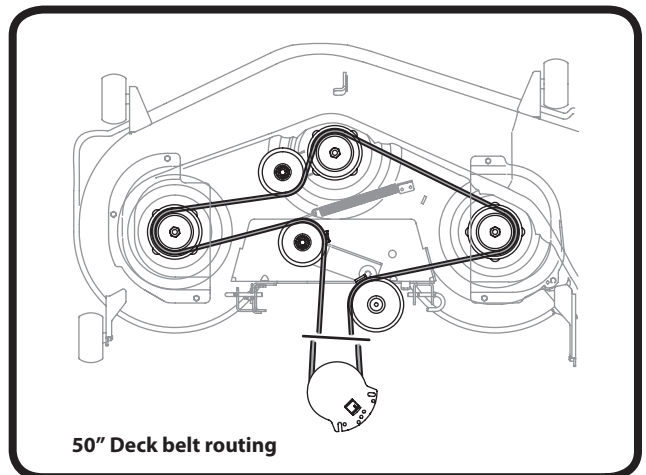

Figure 7.9
4. Route the new belt around the pulleys. See Figure 7.9.